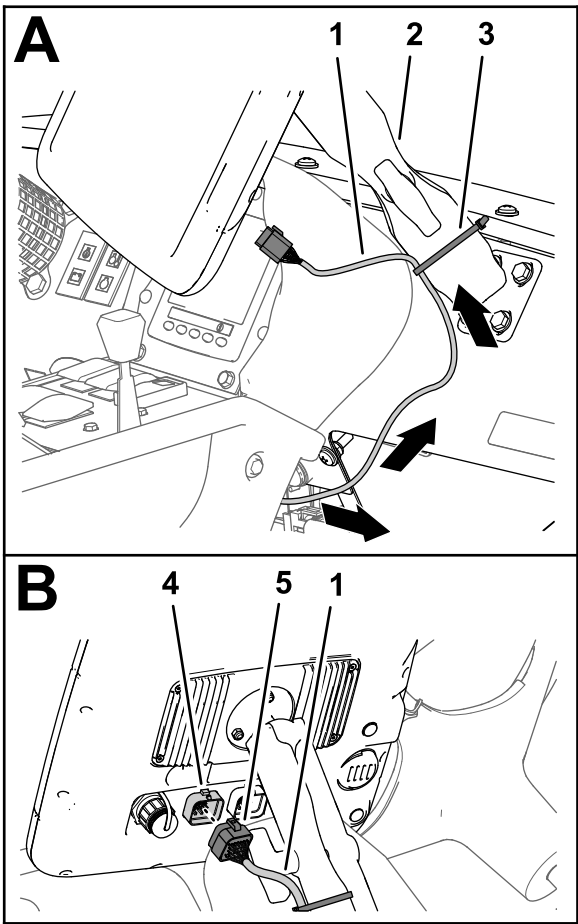

Figure 150
- Route the route the 226 cm (89 inches) data-harness branch up through grommet that surrounds the hole in the dash panel (Figure 150).
7. Align the 26-socket connector of the data harness branch with the 26-pin connector of the sprayer monitor and press the socket connector into the pin connector until the connector latches securely (Figure 150).
8. Secure the 226 cm (89 inches) data-harness branch to the monitor arm with a cable tie (Figure 150).